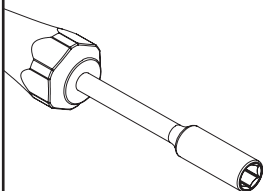
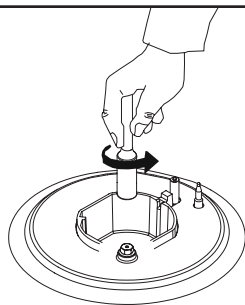

Figure 2
Figure 3
- 2.** With the help of a screwdriver (7 mm) with the tip as shown in figure 2, remove the injector by turning it (See figure 3).